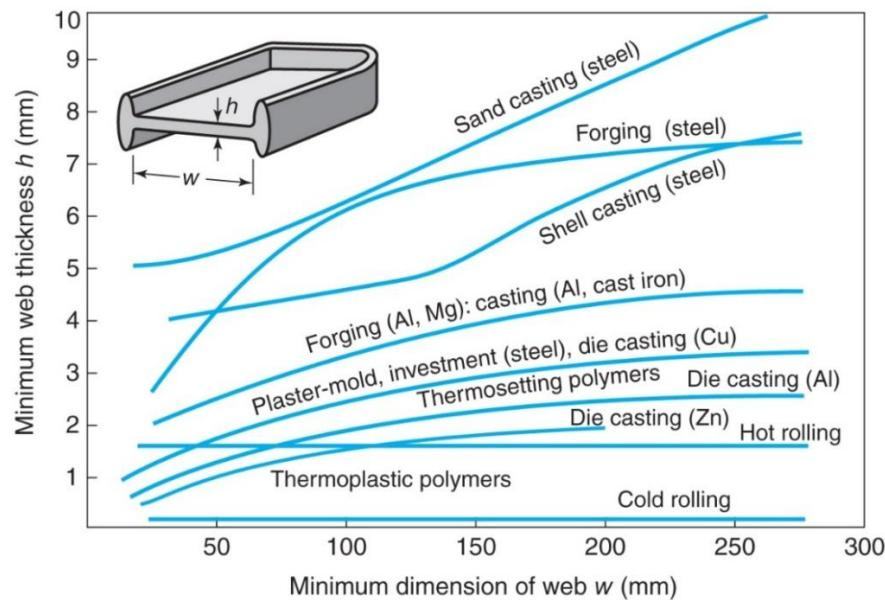

Figure 4[b]
- [b] Figure 4[b] shows manufacturing process capabilities for minimum part dimensions.
- (i) What is meant by manufacturing process capabilities? By referring to Figure 4[b], select THREE(3) different manufacturing processes and describe their capabilities.